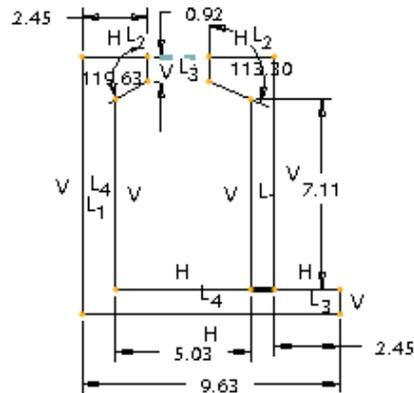

Figure 1-28 Sketch after dimensioning
- c. Dimension the required entities and then modify the dimensions of the sketch, refer to Figures 1-28 and 1-29.
Figure 1-28 shows the sketch after applying dimensions. If your sketch does not have all dimensions shown in this figure, apply them using the **Create defining dimension** button.